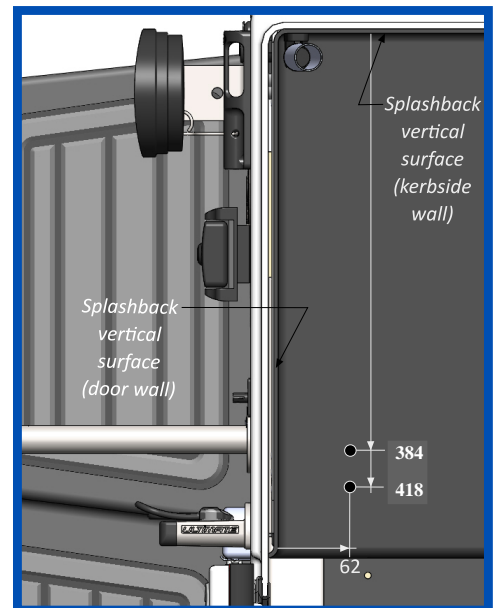

Fig. 1
- Mark two points on the galley bench 384mm and 418mm from the splashback on the passenger side (kerbside) wall of the camper, and 62mm from the splashback on the rear (door) wall (Fig. 1).